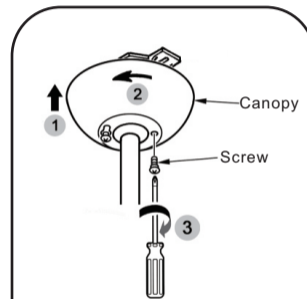

Fig.18
Step 2. Slide the canopy up towards the hanger bracket and place the key hole on the canopy over the screw on the hanger bracket, turn canopy until it locks in place at the narrow section of the key holes. (Fig. 18)